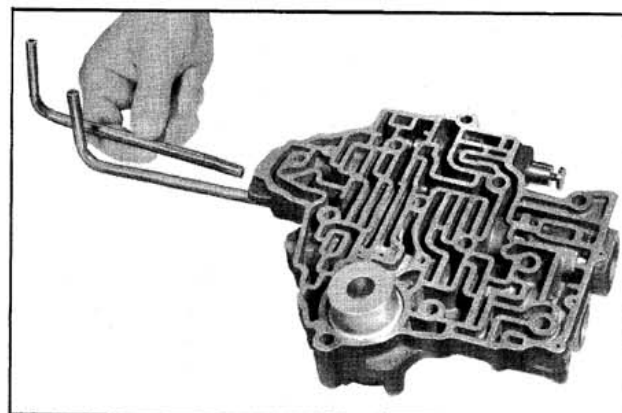

Fig. 6-37 Removing Governor Pipes
3. Remove the governor pipes from control valve assembly. (Fig. 6-37)